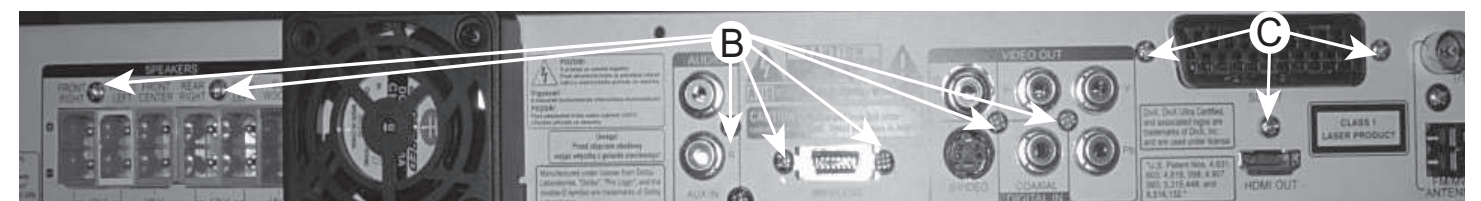

Figure 5
- 1) Loosen 7 screw "B" at the back panel as shown in figure 5.
- 1) Loosen 3 screws "C" at the back panel as shown in figure 5